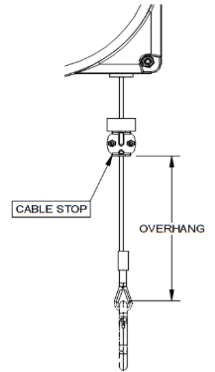

Fig. 06
- Cable stop is adjustable and can be moved up along the cable, enabling a longer overhang distance to attain the most desirable working height. [See - Fig. 06]